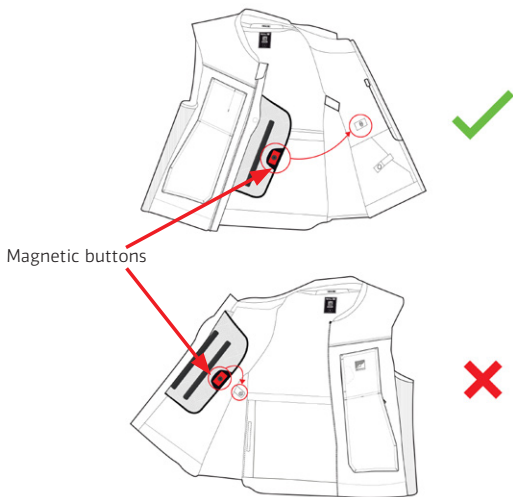

Figure 9
1. Put on the System and fix the Airbag present in the chest area connecting the Chest Magnetic Button (9) with the Left Magnetic Button (11) present on the vest (Figure 9).
2. Close the Activation Zip (1) from the bottom to the top and wait for the System to switch on
3. The correct closure of the Activation Zip (1) and the switching on of the System are signaled by the switching on of the LED Display (2) and by the presence of a vibration in the same area
4. Once the System is switched on, check the LED Display (2) to verify that the System has started correctly (see Section 13 "LED Display Indications"). In particular, the user must verify that, after the System start-up, no System fault is present.